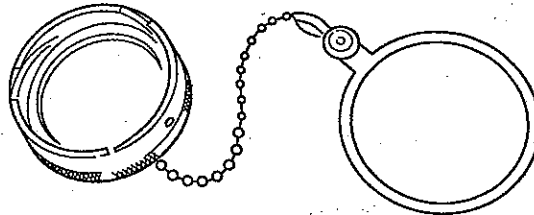

Fig 33 MS3181 Type N receptacle protective cap, general view
23.1.1 MS3181 Type C - for flange mounted receptacles (Fig 33).